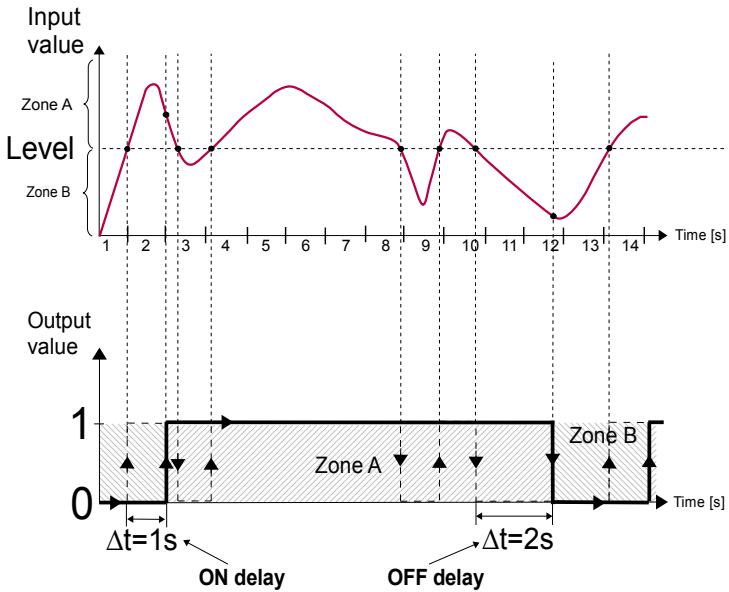

Fig. 7.90. Principle of relay output operation for sample timing settings:
- **ON delay** - this parameter allows to set the time that must pass from the time of exceeds **Level** value until the output switches from low to high state (see Fig. 7.90),
- **OFF delay** - this parameter allows the user to set the time that must pass from the time of exceeds **Level** value until the output switches from high to low state (see Fig. 7.90),